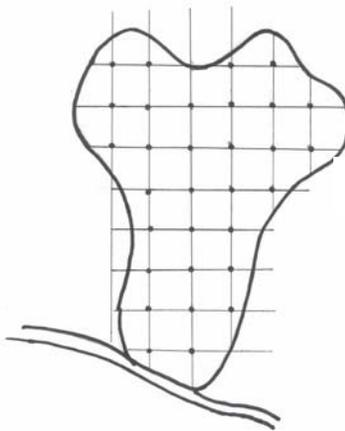

Figure 2
-On your map draw grid lines – usually referenced to a corner (see Figure 2)